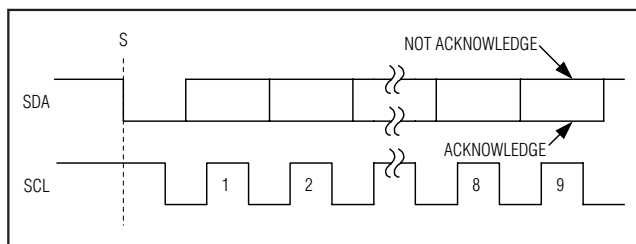

Figure 6. Acknowledge Bits
Data transfers are acknowledged with an acknowledge bit (A) or a not-acknowledge bit ( $\bar{A}$ ). Both the master and the MAX11612–MAX11617 (slave) generate acknowledge bits. To generate an acknowledge, the receiving device must pull SDA low before the rising edge of the acknowledge-related clock pulse (ninth pulse) and keep it low during the high period of the clock pulse (Figure 6). To generate a not-acknowledge, the receiver allows SDA to be pulled high before the rising edge of the acknowledge-related clock pulse and leaves SDA high during the high period of the clock pulse. Monitoring the acknowledge bits allows for detection of unsuccessful data transfers. An unsuccessful data transfer happens if a receiving device is busy or if a system fault has occurred. In the event of an unsuccessful data transfer, the bus master should reattempt communication at a later time.